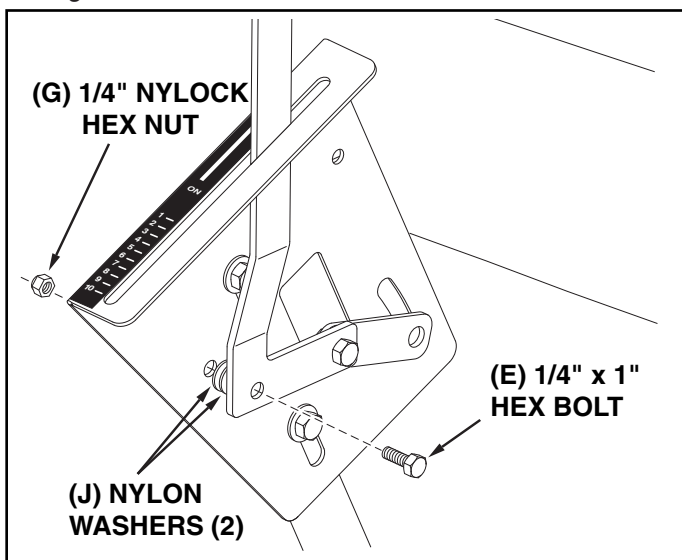

FIGURE 9
20. Assemble the flow control arm to the flow control mounting bracket using a 1/4" x 1" hex bolt (E), two nylon washers (J) and a 1/4" nylock hex nut (G). **Tighten carefully.** The flow control arm should be snug but should pivot with no more than slight resistance. See figure 9.